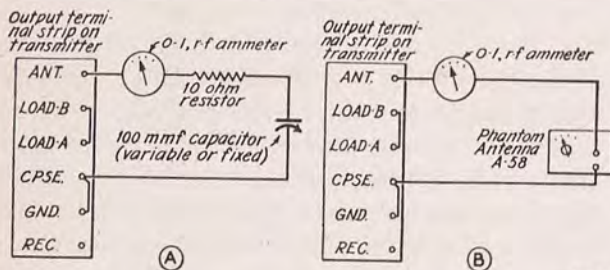

Figure 9. Phantom antennas for neutralizing.
(1) Make up a dummy load, as shown in table II or use Phantom Antenna A-58 and connect to transmitter. (See fig. 9). Connect a shorting wire across the two terminals of the 0-to 1-ampere, r-f meter.